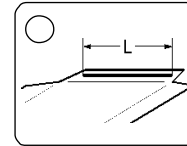
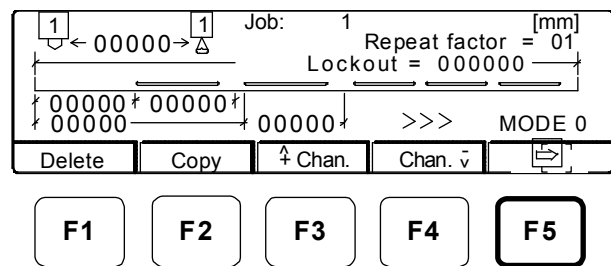

Figure 9-1. Glue-Pattern-Edit Icon Button
Figure 9-2. Glue-Pattern-Edit Menu with Standard, Stitch, or Jogging Mode Selected (Standard Mode Shown)
1. Press the glue-pattern-edit icon button (Figure 9-1). The glue-pattern-edit menu displays (Figures 9-2 and 9-3).